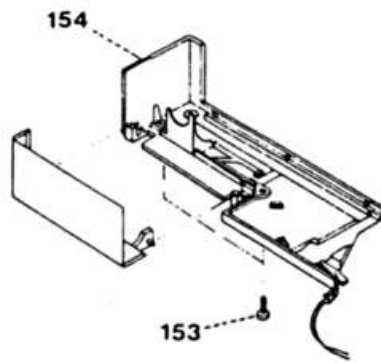

Fig. 29b
- Unscrew both screws 153 of the free-arm cover (fig. 29b).